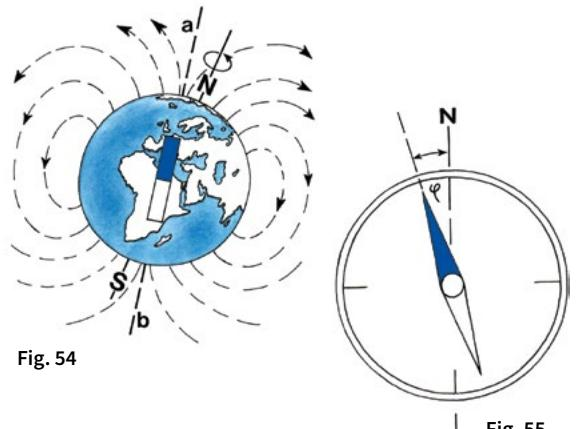

Fig. 54
Fig. 54 shows the Earth with its magnetic lines of force. The straight line North (N) - South (S) represents the geographical axe of the Earth. The fact that the Earth exerts a certain effect on the compass needle leads us to the conclusion that the Earth itself is a huge magnet whose south magnetic pole is situated near the geographic North Pole, and vice versa, its magnetic North Pole near the geographic South Pole. Its field extends all over the Earth. Within this magnetic field the compass needle always aligns itself in the direction of magnetic lines of force, running from the North to the South.